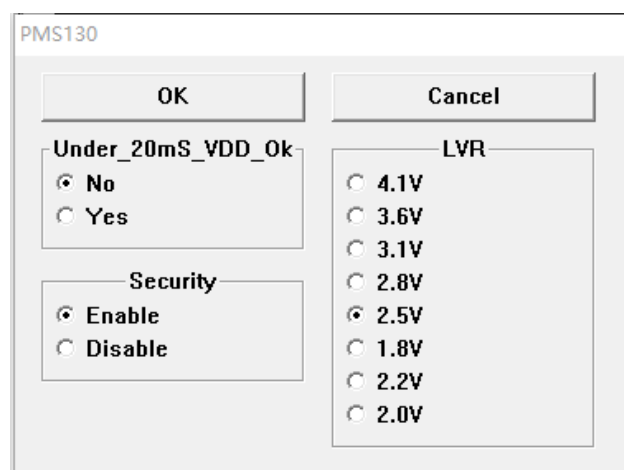

Fig.3-18 Code_Option window
5. Click  or press the single-step key F11 to open the **Code_Option** and set program parameters, as shown in figure 3-18.